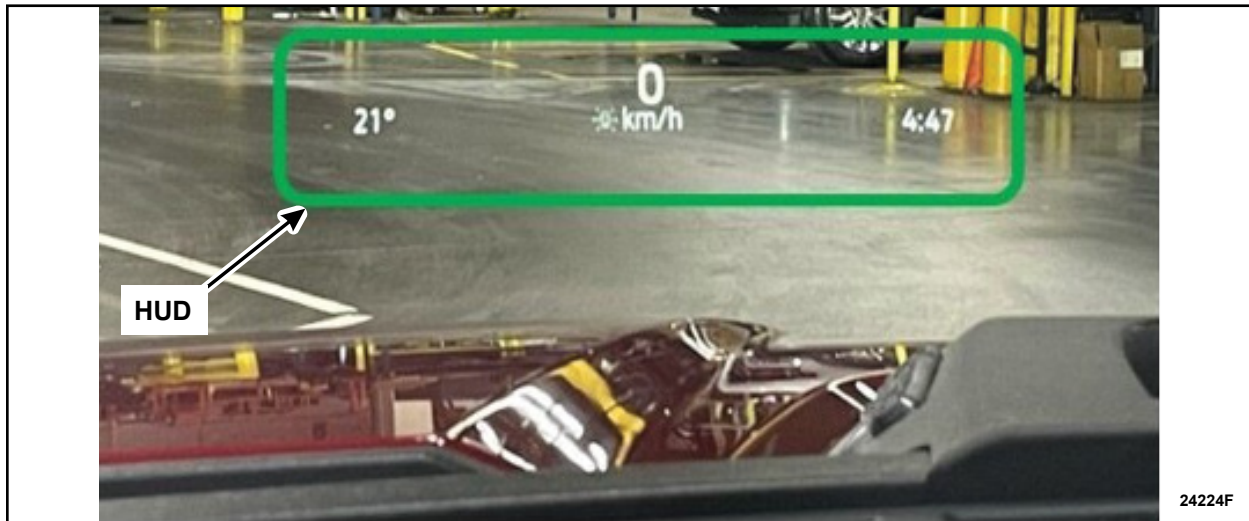

FIGURE 5
11. If equipped, verify the function of the Heads Up Display (HUD). See Figure 5.